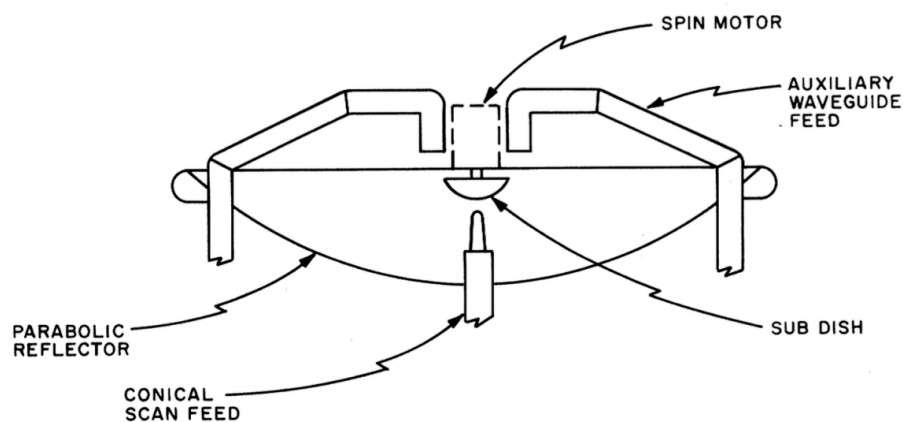

Figure 4: TALAR Antenna
- 3) Auxiliary feeds add additional guidance by partially illuminating the parabolic reflector. This creates auxiliary beams as shown in Figure 4